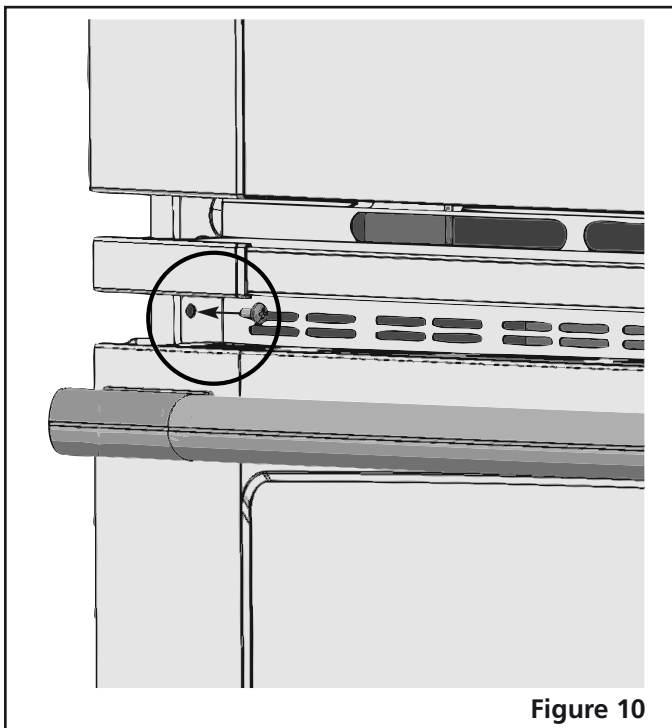

Figure 10
A. The mounting holes in the side trims may be used as a template to locate the appliance mounting screw holes (see figure 10).